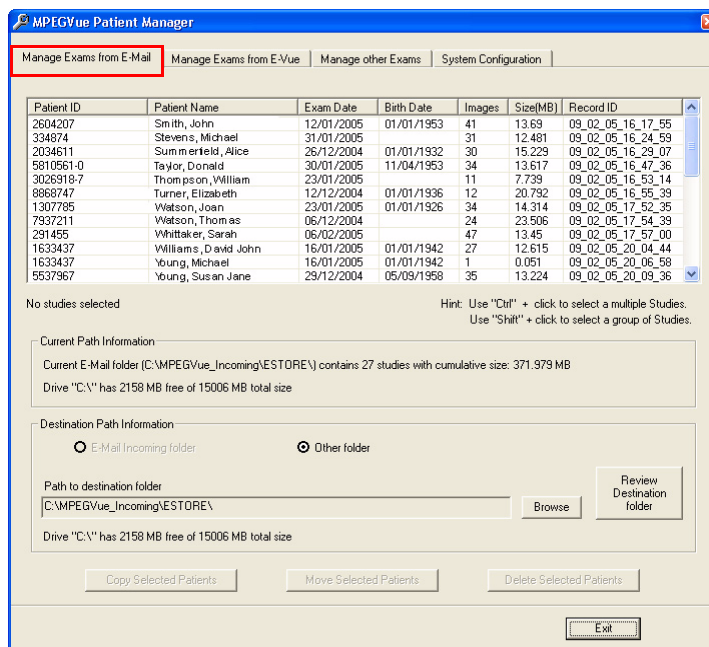

Figure 3-181 MPEGVue Patient Manager Window - Manage Exams from Email Tab
- a.) Make sure the Manage Exams from Email tab is activated as shown in Figure 3-181.